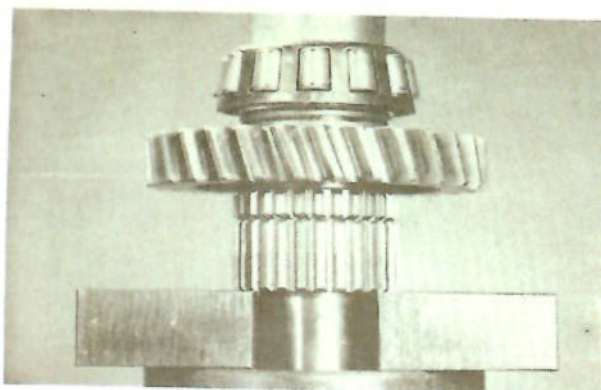

FIG. 17 - INSTALLING THE CONE OF FRONT TAPERED ROLLER BEARING ON THE OVERDRIVE INPUT SHAFT.
31. Install the bushing, the high-speed transfer gear, and the thrust plate on the forward end of the over-drive input shaft (P/N 4003). Then place the front tapered roller bearing on the shaft. Seat the cone of the bearing solidly against the thrust plate, by carefully tapping a piece of appropriate size metal tubing against the cone with a hammer, (Fig. 17).